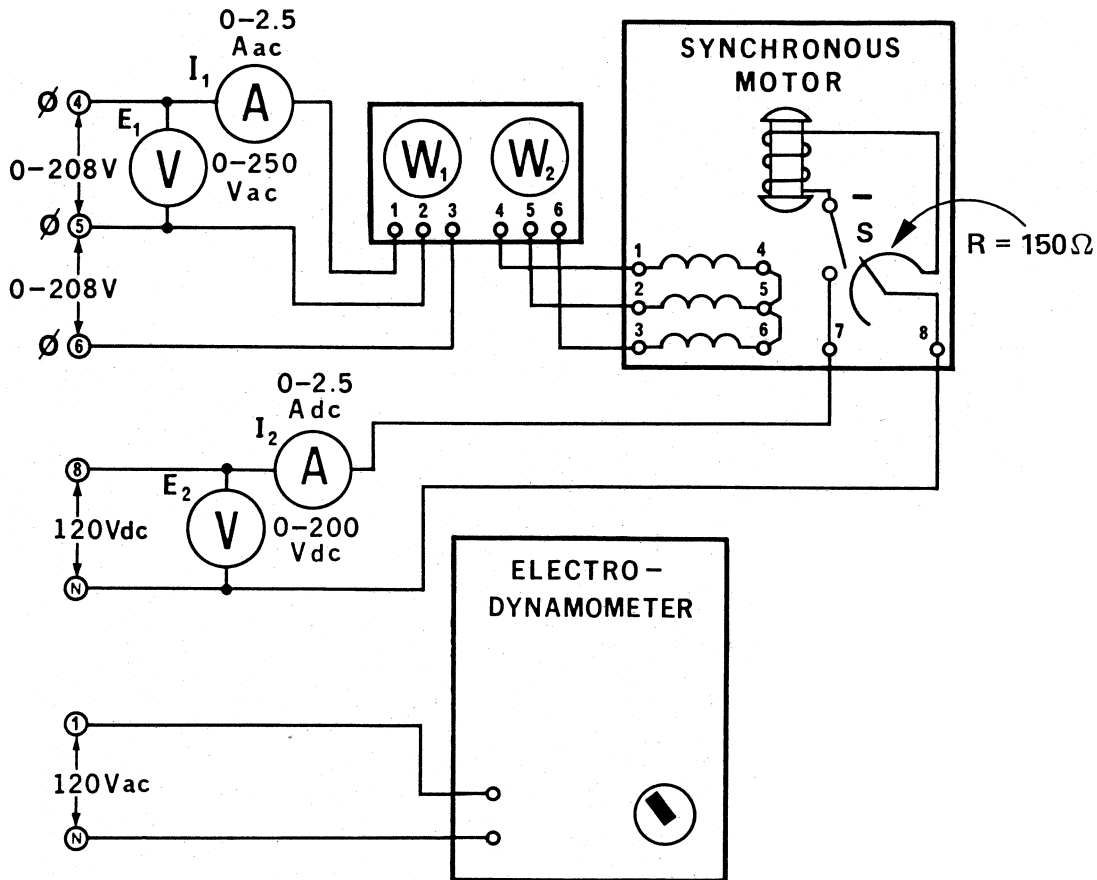

Figure 9-1.
- 1. Using your Three-Phase Synchronous Motor/Generator, Single-Phase Wattmeter, Electro-dynamometer, Power Supply, AC Ammeter, AC Voltmeter and DC Voltmeter/Ammeter, connect the circuit shown in Figure 9-1. Note that the stator windings are connected to the variable three-phase output of the power supply, terminals 4, 5 and 6 and that the rotor winding is connected to the fixed DC output of the power supply, terminals 8 and N.